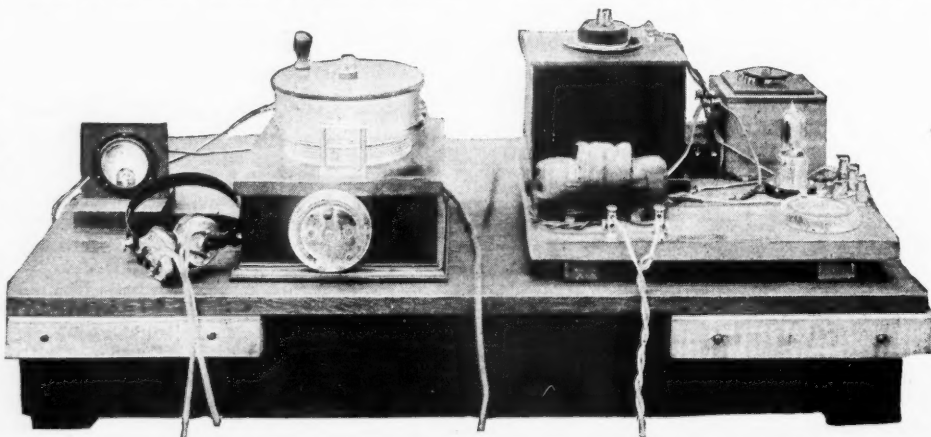

Fig. 5. The Assembled Receiving Set and Measuring Instruments Used in the Signal Comparison Tests.
It is possible to measure the strength of a signal by comparing it with another of the same pitch and quality, whose intensity is known, and this method was finally adopted. The comparison signal was furnished by a small audio frequency vacuum tube oscillator. Fig. 4b shows the diagram of connection and Fig. 5 the assembled set. Fig. 6 shows the complete receiving set and the galvanometer and potentiometer used in the signal comparison set. The output current of this passed through a known resistance R and a milliammeter (S), thus giving known voltage drop across the resistance. By means of the slider any fraction of this voltage could be applied to